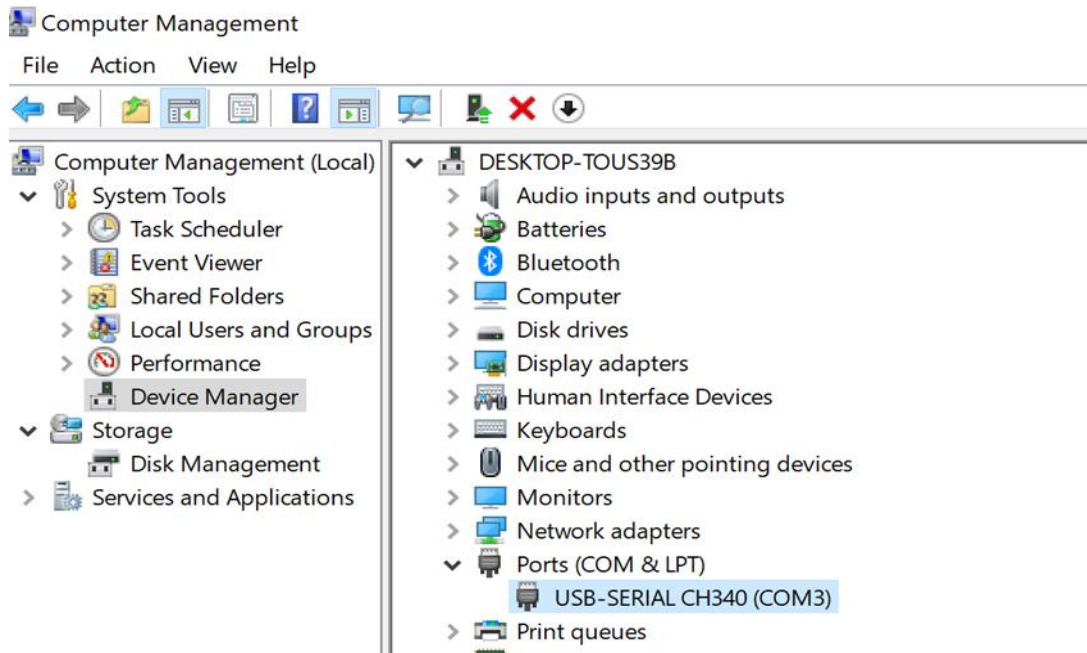

Fig. 3.2.1
- (1) Software installation: Win7 / Win8 / Win8.1 / Win10 system
- (2) Connection: connect the data cables or wireless data transmission. USB cable connects to your computer.
- (3) Driver Debugging: Right click "My Computer" to "Computer management", click "Device Manager". User can find "USB Serial Port (COM XX)" which indicates driver has been installed automatically, as shown in Fig. 3.2.1.